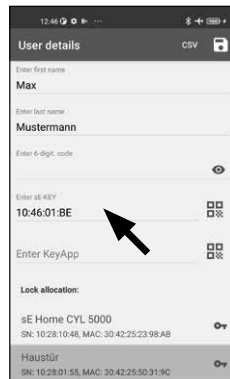

Fig. 61
- 1 Tap the relevant line (Fig. 61) to delete the entry.